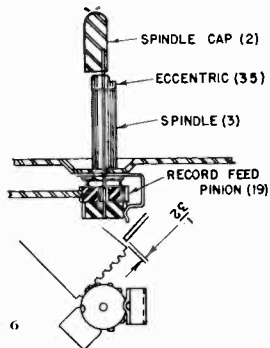

FIGURE 6
Check for bind in Spindle Assembly (See Figure 6). Disassemble index collar and Record Feed Pinion (20), remove Spindle
- (a) Reassemble with a maximum end play of .005 between Eccentric (35) and Spindle Cap (2).
- (b) The Eccentric (35) should be in line with the Spindle (3) when the changer has completed its cycle.
- (c) The Feed Sector Lever (19) should mesh with the Record Feed Pinion (20) as shown in Figure 6.
- (d) Align Spindle Cap (2) with Spindle (3) in detent position.
Check meshing of Feed Sector Lever (19) with Record Feed Pinion (20). Reset as shown in Figure 6.